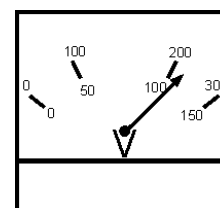
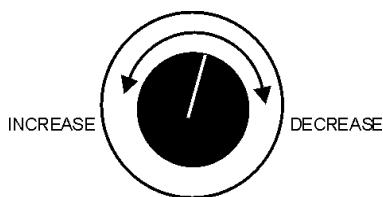

Figure 46. Voltage Meter (Volts)
Figure 47. Voltage Adjust Control Knob
11. The generator's voltage meter (Figure 46) displays the 120 VAC in **VOLTS**. If the voltage is not within the specified frequency tolerance, use the voltage adjustment control knob (Figure 47) to increase or decrease the desired voltage.